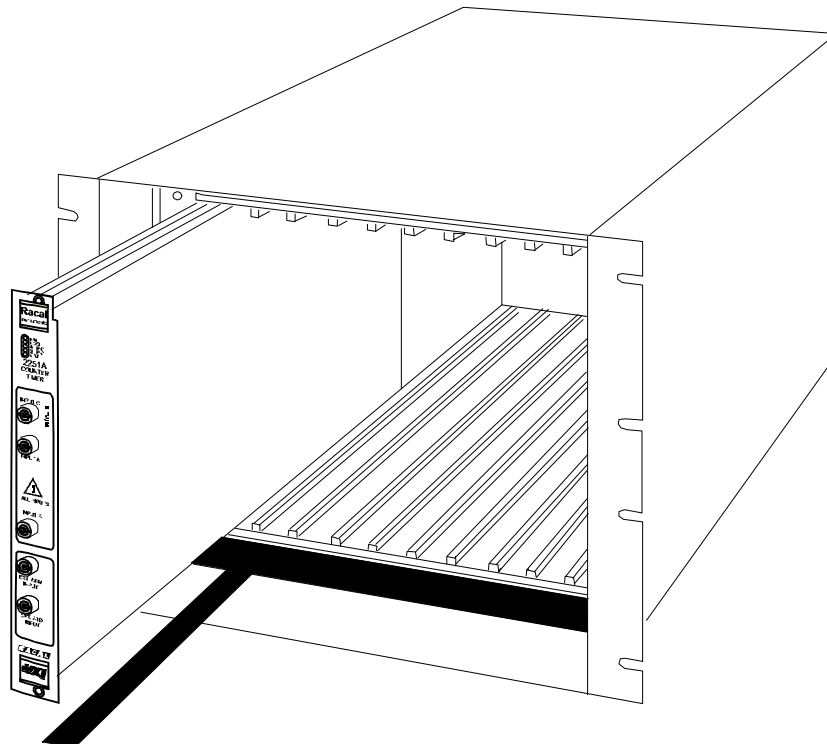

Figure 1-1. Model 2251A Resident In a VXIbus Compatible Mainframe.
- 1.1.4 Refer to **Figure 1-1** for an illustration of the 2251A in a VXI mainframe.